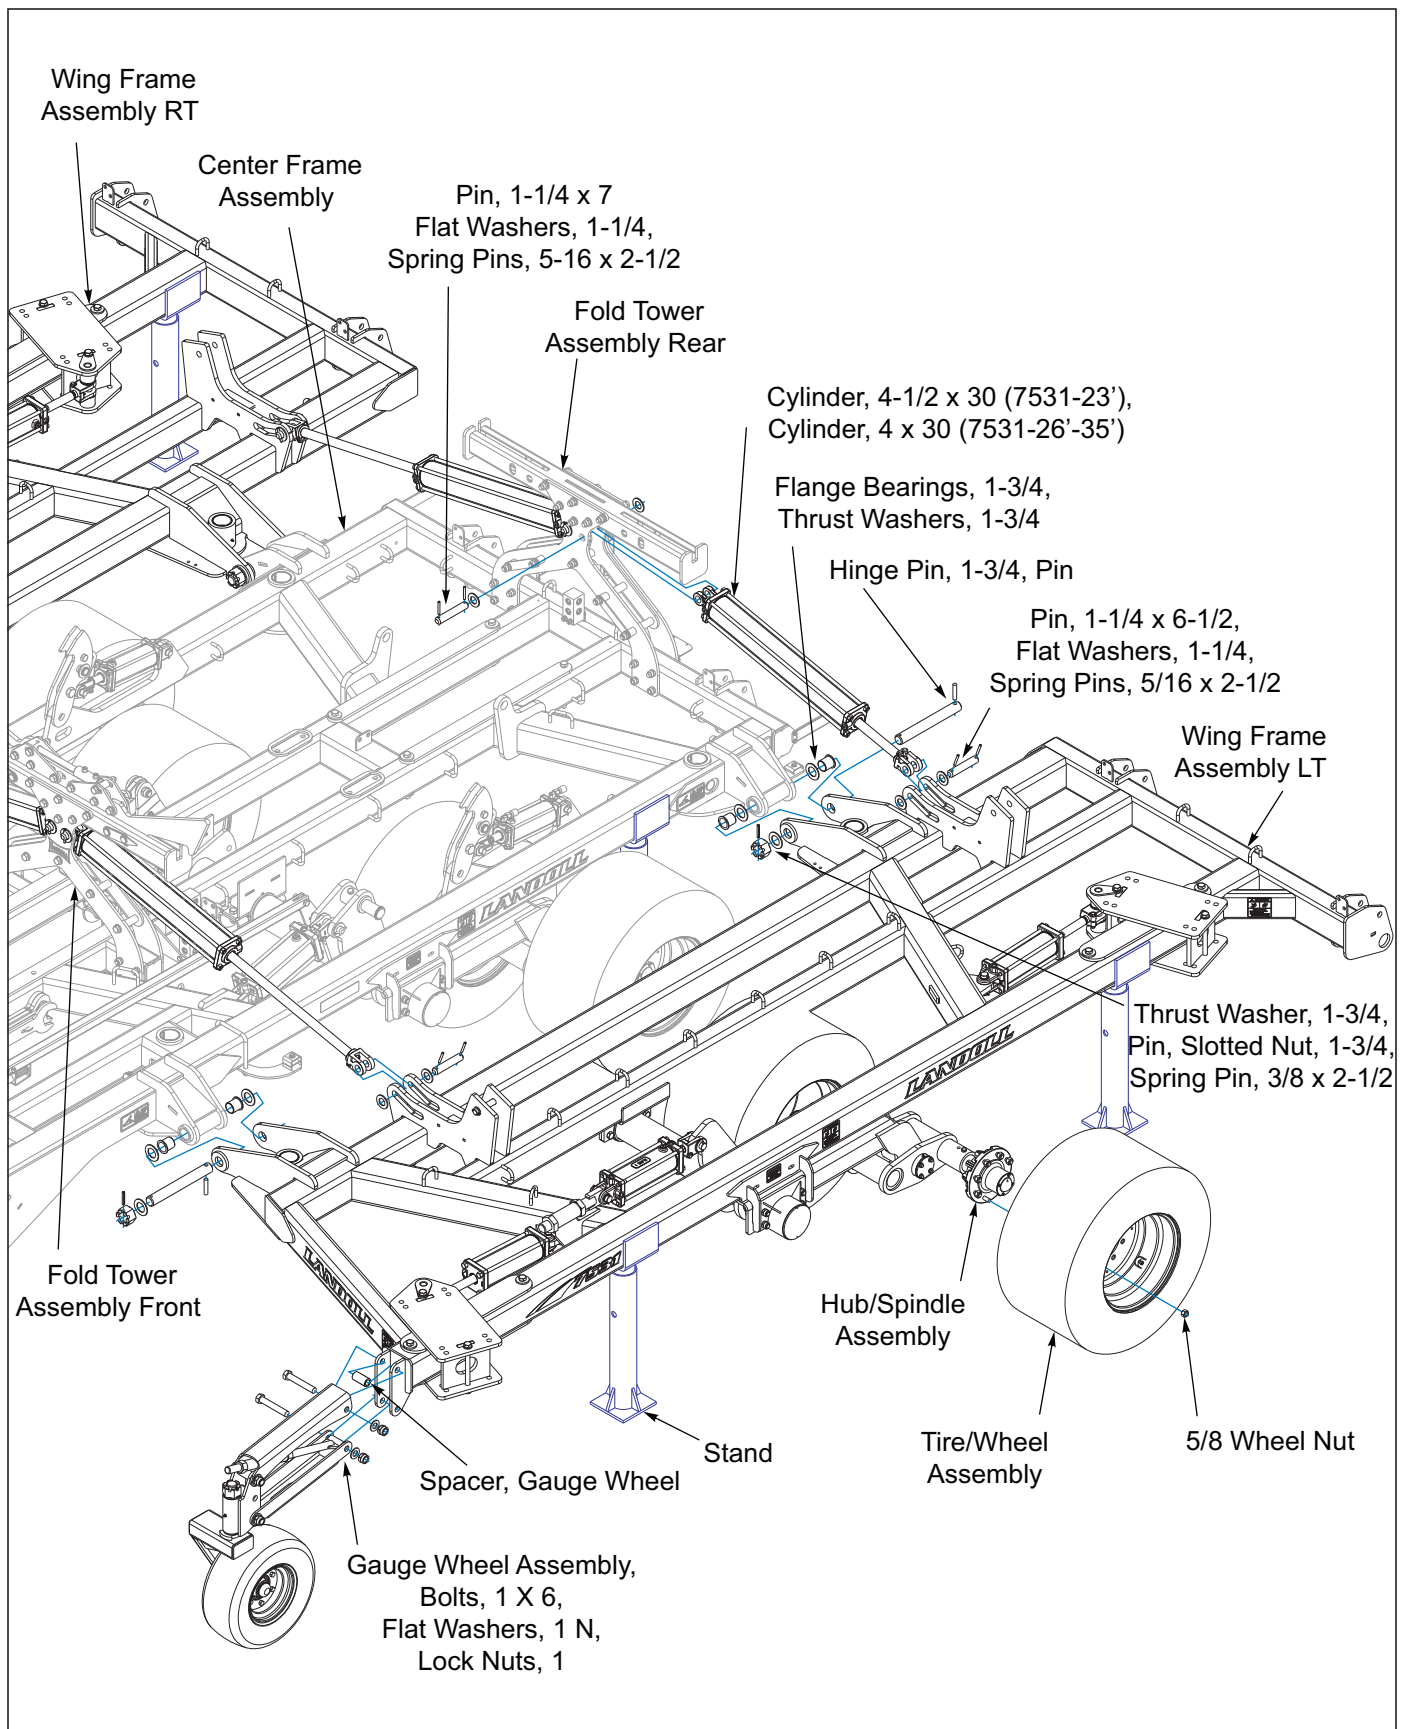

Figure 3-6: Wing Frame Assembly Installation 7531-23' - 35'
See Figure 3-6
6. Attach the base end of the fold cylinders to the front and rear fold tower assemblies with 1-1/4 x 7 pins, washers and roll pins provided *See Figure 3-6*. Attach the rod end of fold cylinders to the center frame with 1-1/4 x 6-1/2 pins, 1-1/4 flat washers and 5/16 x 2-1/2 spring pins. The fold cylinders come with the fittings supplied already installed and should have a regular 90 degree fitting on the base end and a black 90 degree restricted fitting on the rod end. Install with fittings facing towards the center of machine.